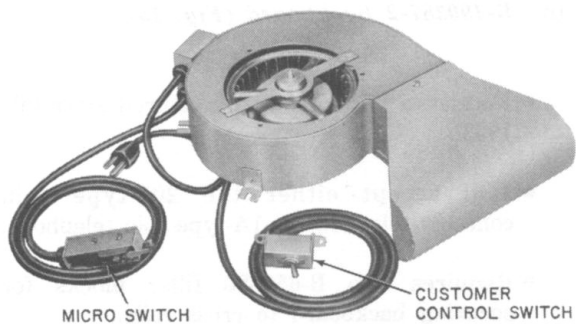

Fig. 9—KS-16797, List 9 Blower Assembly
2.18 Booth ventilation is provided by use of a KS-16797, List 9 blower assembly (Fig. 9). The assembly includes an interlock switch mounted in the door track to control the operation of the blower when opening and closing the booth door. A customer-controlled switch is also part of the